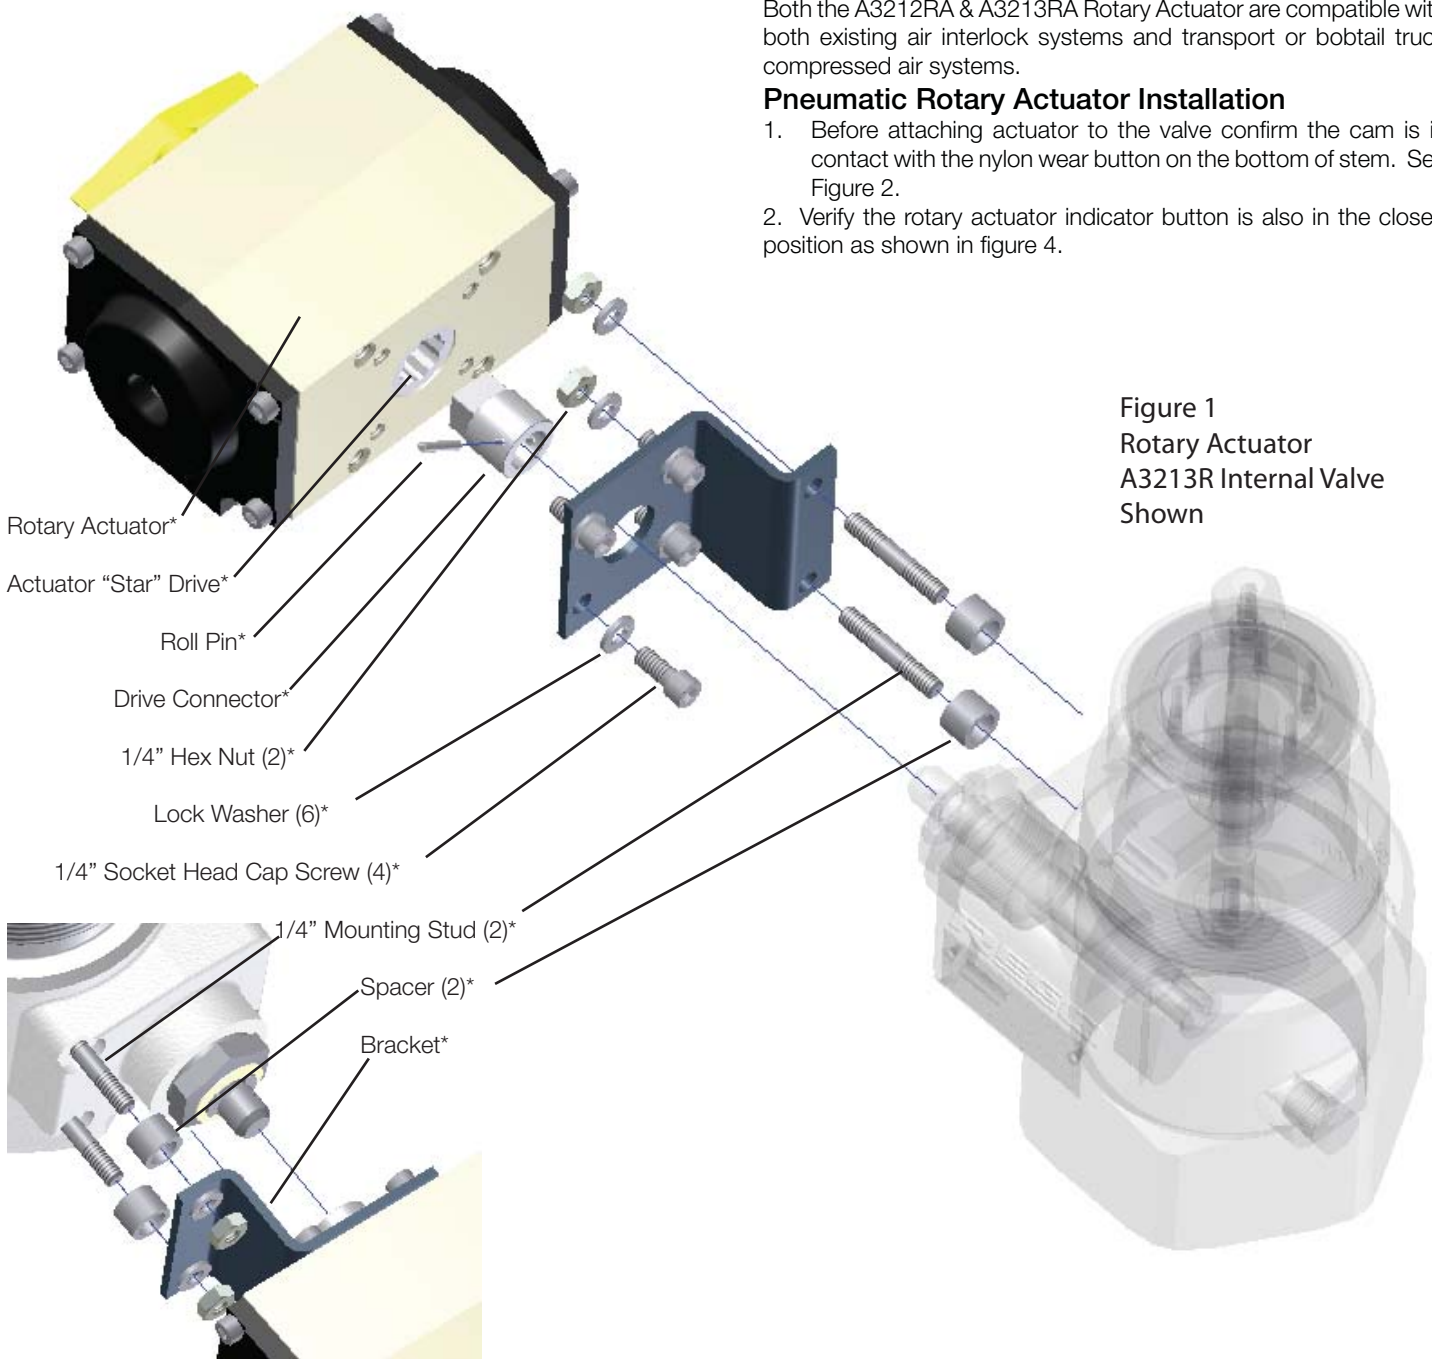

Figure 1
2. Apply thread locking compound Loctite 242® (Medium Strength) to threads on one end of the (2) 1/4"-20 double ended mounting studs. Install the (2) studs into the valve body in the (2) holes shown in Figure 1.